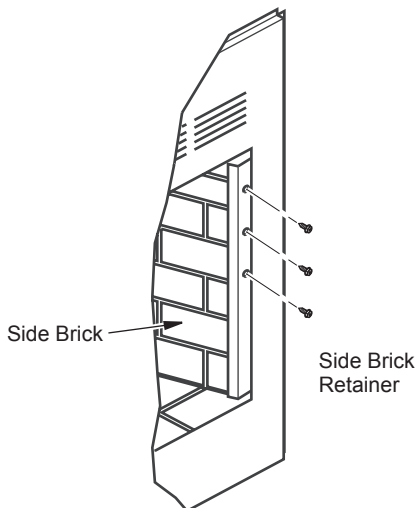

Figure 5
1. Remove three screws that secure side brick retainers. Pull out side brick exposing blower cover plate on right side of fireplace (see Figure 5).